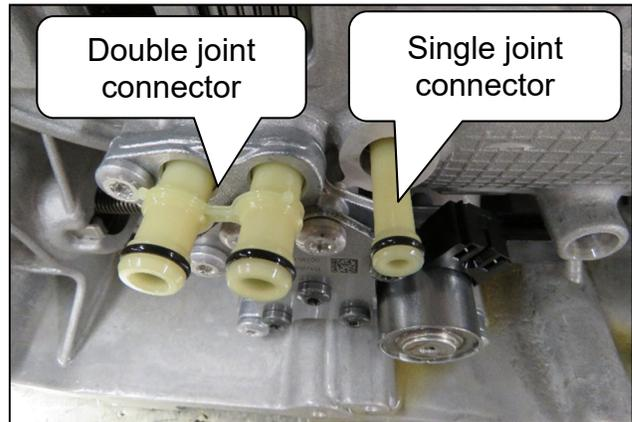

Figure 6
7. Remove the three (3) joint connectors from the transmission case (Figure 6).